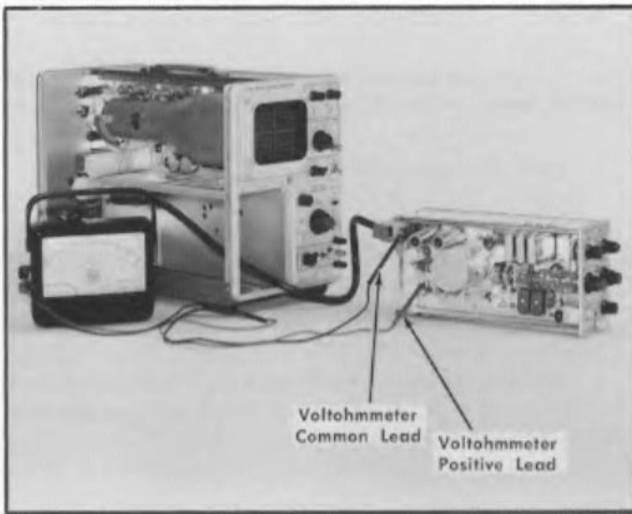

Fig. 6-6. Initial test equipment setup for steps 2 through 7.
- a. Initial test equipment setup is shown in Fig. 6-6.